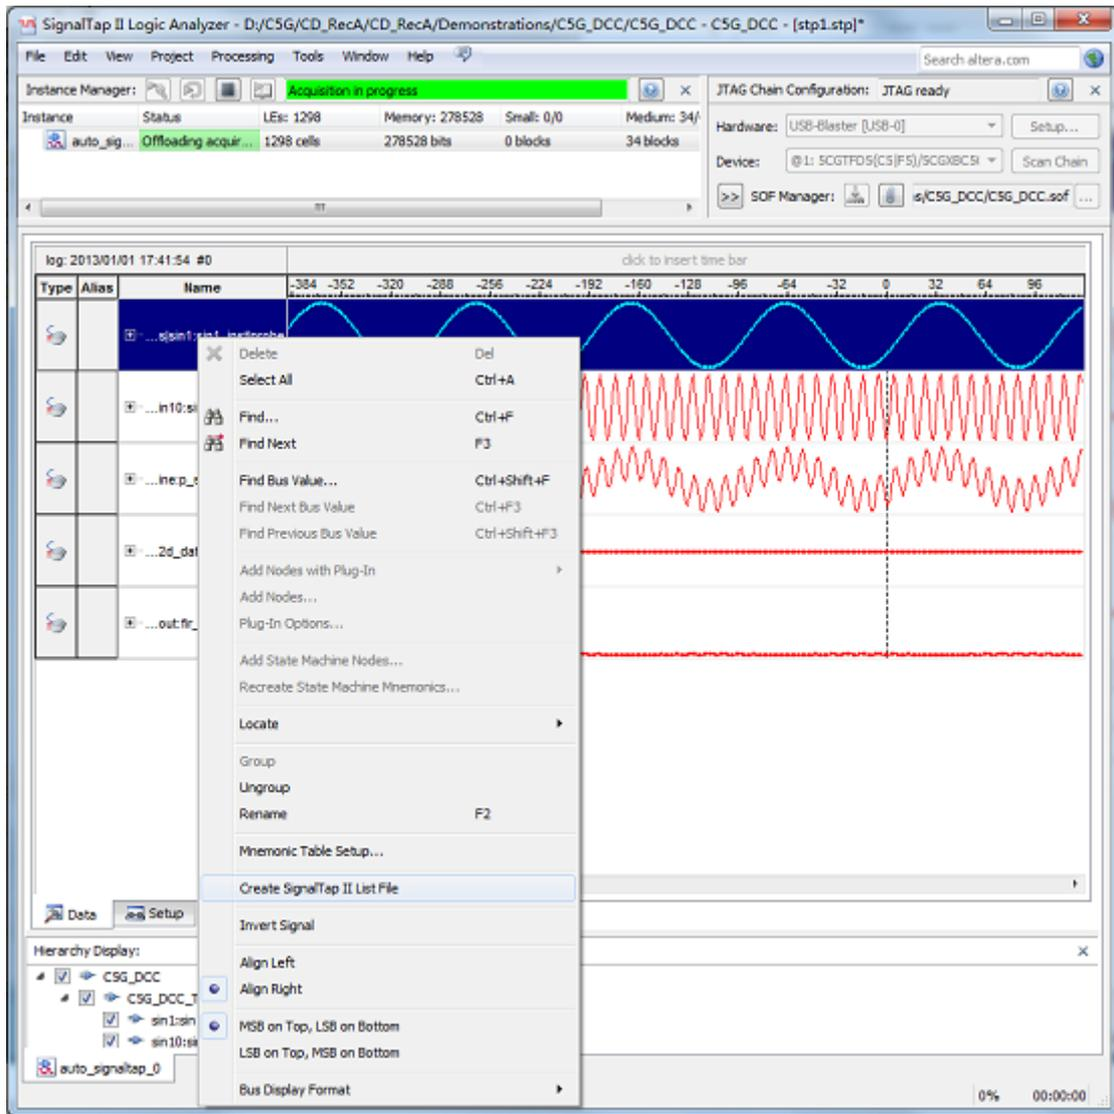

Figure 1-3 Using Quartus 13.0 sp1 SignalTap II to generate the SignalTap II List File
3. Generate the SignalTap II List File as Figure 1-3